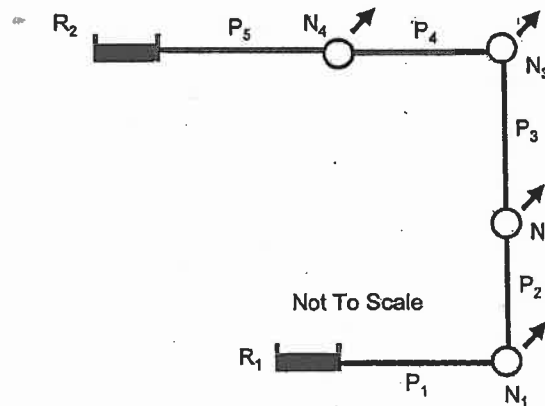

Figure 2. Layout of water pipe network.
- /20 2. The pipe network in Figure 2 distributes water from reservoirs R1 and R2 to nodes N1 through N4. The HGL in reservoir R1 is 185 m and the HGL in reservoir R2 is 160 m. All pipes have a length of 250 m, a Hazen-Williams 'C' factor of 140, and an inner diameter of 254 mm. The pipe centerline elevations and customer demands at each node are indicated in Table 1. Calculate the flow in pipes P3 and P4 and the pressure head at nodes N2, N3, and N4.